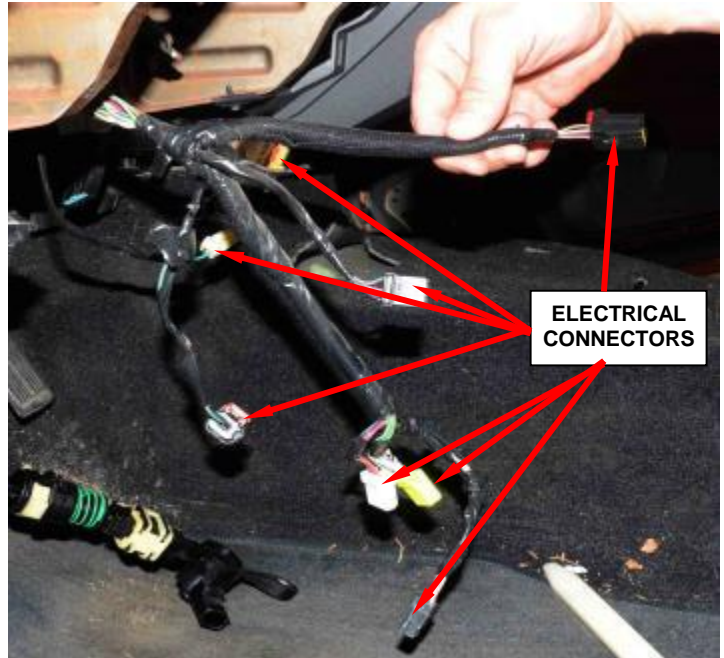

Figure 79 – Column Electrical Connectors
12. Disconnect the wiring harness electrical connectors from the column (Figure 79).